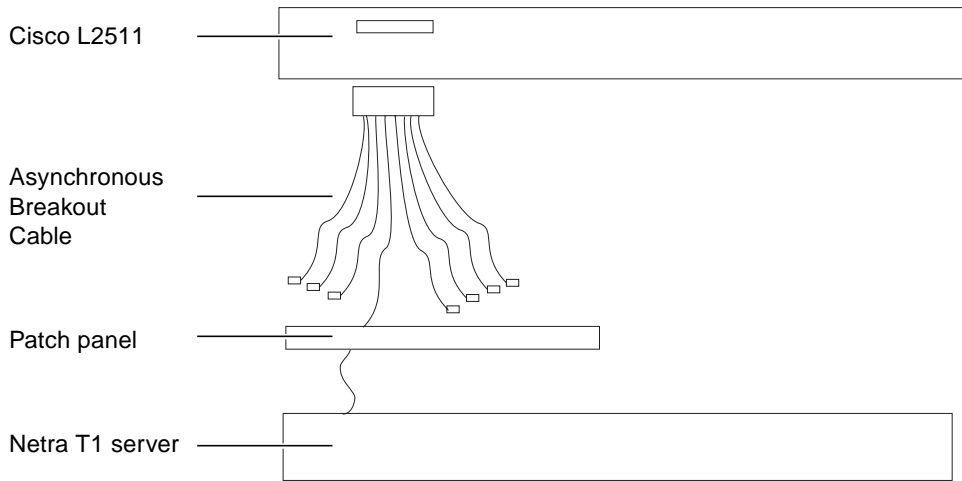

FIGURE 6-3 Patch Panel Connection Between a Cisco L2511 and a Netra T1 Server
- Connect the Breakout Cable to a patch panel and use the straight-through patch cable (supplied by Sun) to connect the patch panel to the Netra T1 server (see FIGURE 6-3).